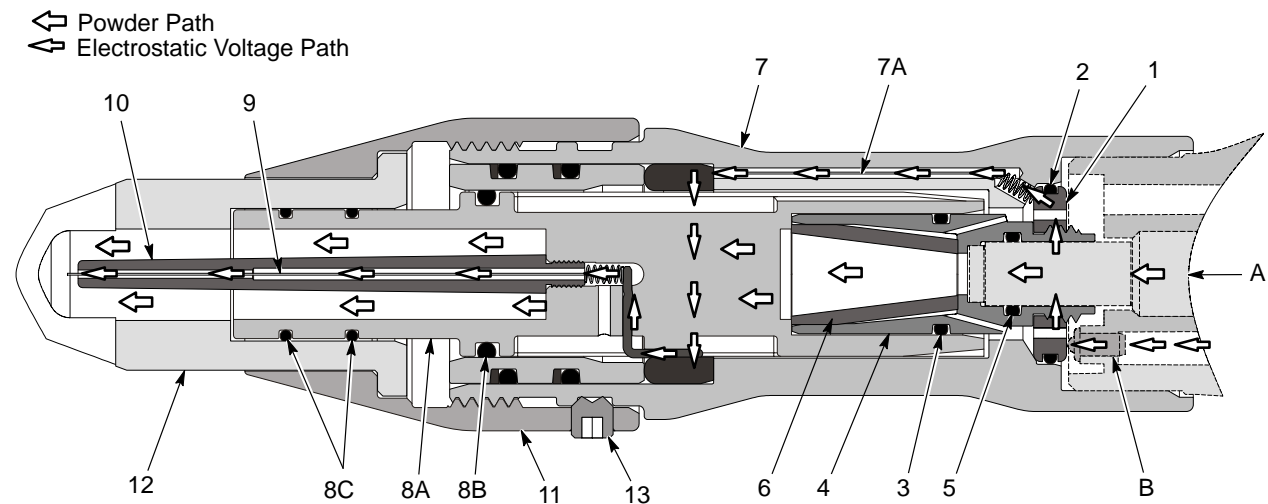
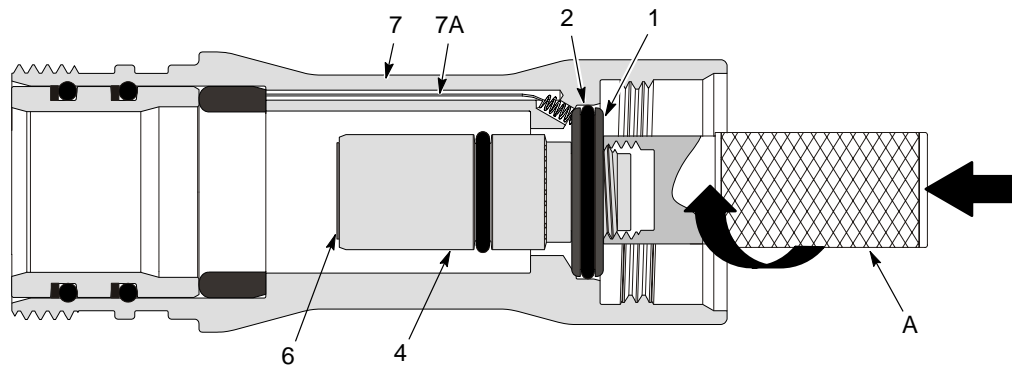

Figure 2 Nozzle Extension (Prodigy Automatic Bar-Mount Gun Shown)
Figure 3 Installing the Cone/Insert/Electrode Ring Assembly into the Adapter Sleeve.
See Figure 2.
1. See Figures 2 or 4. Install the O-ring (2) on the electrode ring (1).
2. Install the O-rings (3, 5) in and on the insert (4).
3. See Figure 3. If removed, install the electrode (7A) into the adapter assembly (7).
4. Install the filter cone (6) into the insert (4).
5. Thread the electrode ring (1) onto the insert.
6. Screw the nozzle tool (A) shipped with the spray gun onto the threads of the insert projecting from the electrode ring. Slide the insert assembly into the adapter, then twist and press on the nozzle tool to seat the electrode ring firmly into the adapter.
7. See Figures 2 or 4. Install the electrode (9) into the electrode holder (10).
10. Blow off the front end of the spray gun, powder tube (A), and contact (B).
12. Install the nozzle (11) onto the electrode support, orienting the nozzle as desired. There will be a gap between the nozzle flange and the adapter sleeve.
13. Slide the nozzle nut (12) over the nozzle (11), then thread the nut onto the adapter sleeve until tight. Do not overtighten the nut.
14. Install the set screw (13) into the nozzle nut and tighten securely. Do not overtighten the set screw or you will strip the plastic threads.